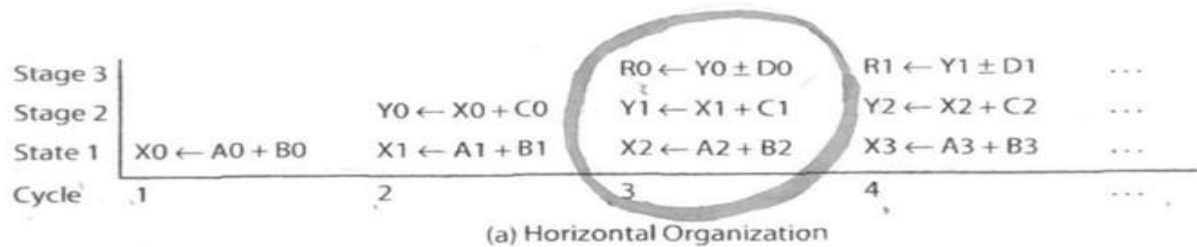

Fig 6.5
Refer to Figure 6.5 -Horizontal Pipeline chart
Refer to Figure 6.5 -Horizontal Pipeline chart (Cont)
- The pipeline chart in Fig. 6.5(a) has horizontal organization with clock cycles shown on the x-axis.